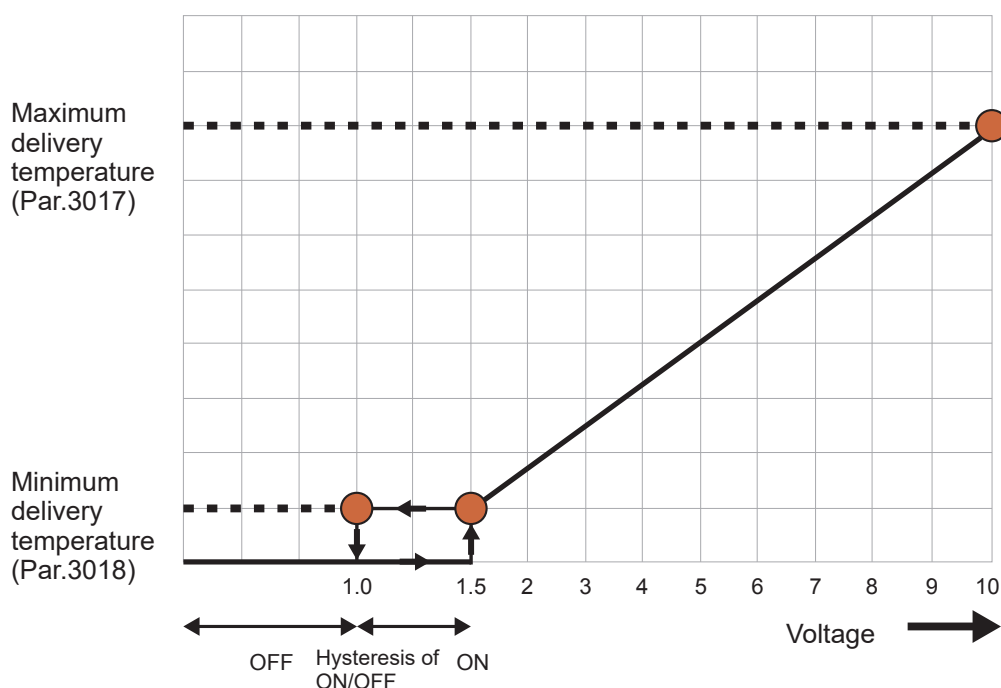

Figure 13-3 – Operating rules for 0-10 VDC analogue input
- 3.- Now the boiler can be controlled via the 0-10 Vdc signal according to the rules shown in figure 13-3;